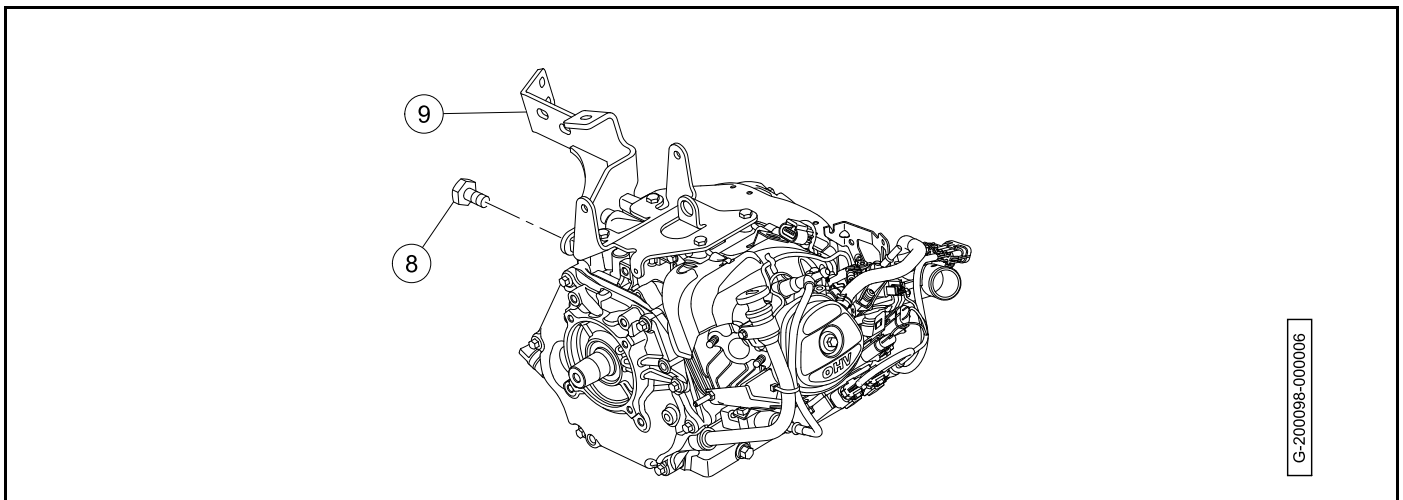

Figure 20-3 Exhaust Weldment Removal
17. Remove the clutch plate (7).
18. Remove the bolts (8) (Figure 20-3, Page 20-3).